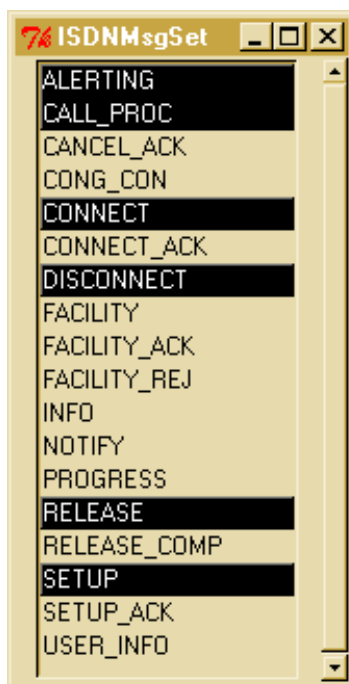

Figure 4. ISDNMsgSet Event Selection
2. A window of events specific to the event group you selected (**CallInfoSet**, **IE Set** or **ISDNMsgSet**) will appear. Figure 4 shows the window that will appear if you choose **ISDNMsgSet**. Select the events you want to trace by clicking on them.